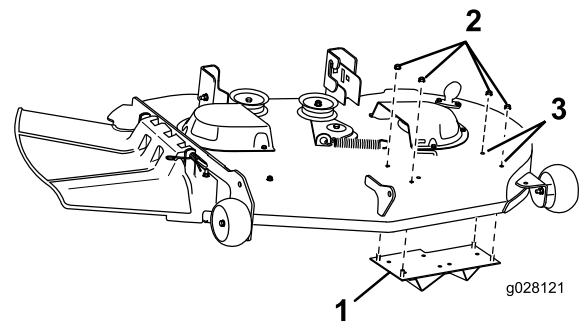

Figure 5
2. Remove 2 plug bolts and 2 nuts from the mower deck in the locations shown in Figure 5.
3. Secure the kicker plate to the left-hand side of the mower deck using 4 flange nuts (5/16 inch) as shown in Figure 5.